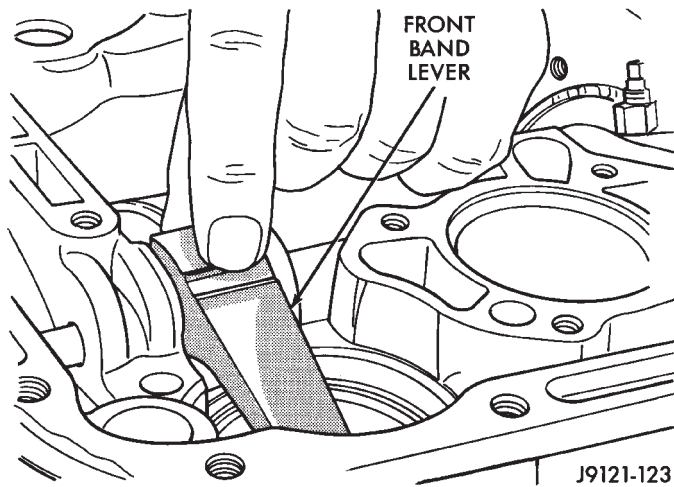
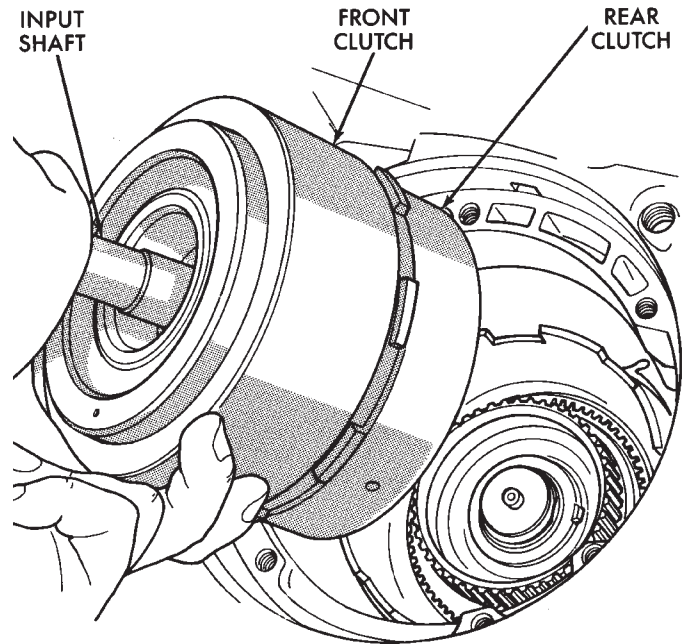

Fig. 103 Removing/Installing Front Band Lever
Fig. 104 Removing Front/Rear Clutch Assemblies
(19) Remove front band lever (Fig. 103).
(20) Remove front band lever shaft plug, if necessary, from converter housing.
(21) Remove front band lever shaft.
(22) Remove front and rear clutch units as assembly. Grasp input shaft, hold clutch units together and remove them from case (Fig. 104).